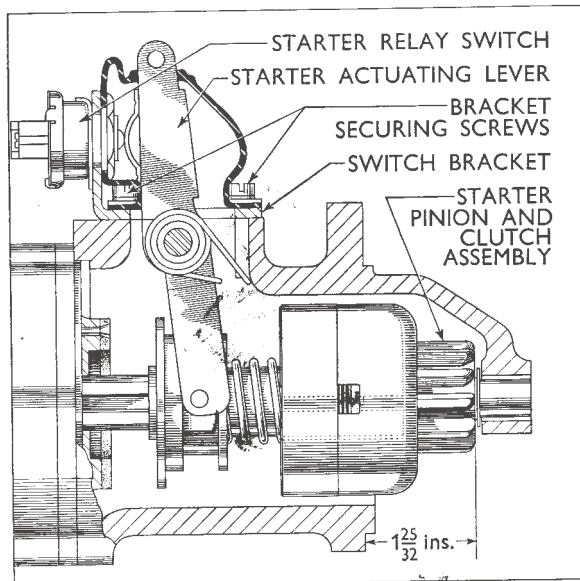

Fig. 13
the upper half of the actuating lever with the plain face towards the pinion. Refit the return spring and two spacers with the loop in the spring downward and away from the starter body (see Fig. 13), and enter the lever pivot pin (or bolt). Locate the spring ends in the housing behind the flange.
6. Depress the actuating lever until the distance from the rear face of the pinion teeth to the starter motor mounting flange is $1 \frac{25}{32}$ in. (81.6 mm.) as shown on Fig. 13). Adjust the relay switch bracket until the contacts are just closed with the pinion at this setting. Securely tighten the retaining screws. Check that the contacts are closed by means of a battery and bulb.